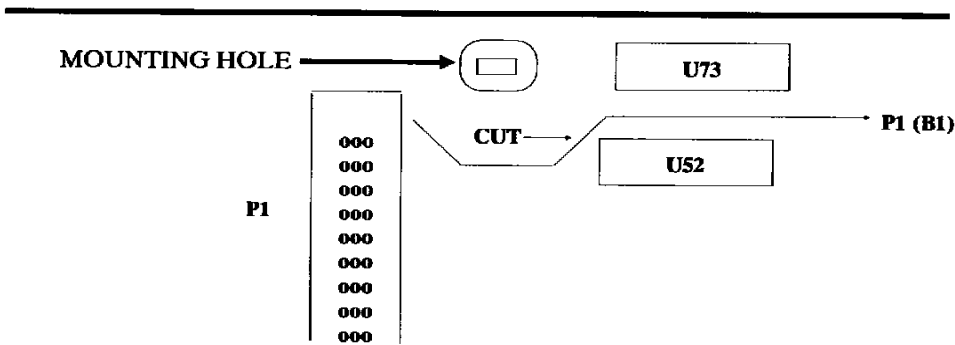

Figure 1
2. \_\_\_\_\_ Cut the trace that runs from connector P1, pin B1 to U21, pin 11. A convenient place to cut this trace is on the component side of the PC board, top right corner, near the memory board mounting hole and U73 (See Figure 1)